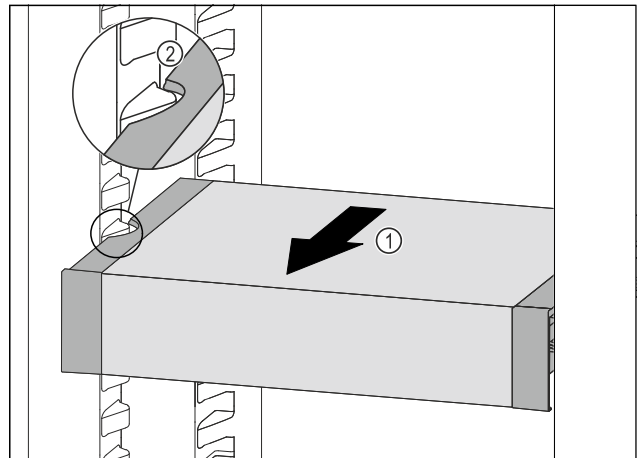

Fig. 109
- ▶ Pull VarioSafe forward Fig. 109 (1) until the recesses in the side of the VarioSafe are at the level of the support rib in the refrigerator compartment. Fig. 109 (2)